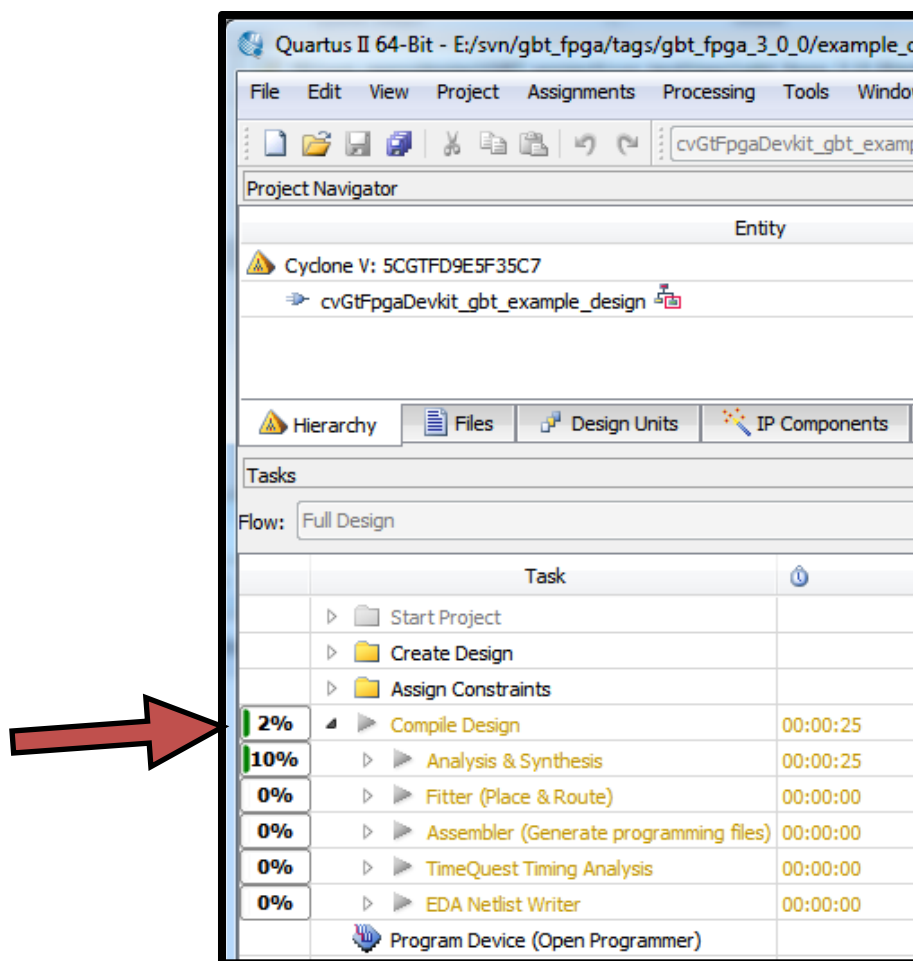

Figure 39: Implementation status bars
6. After clicking the violet triangle, several tasks status bars appear in the window “Tasks”, indicating how much of the project has been implemented (see Figure 39).